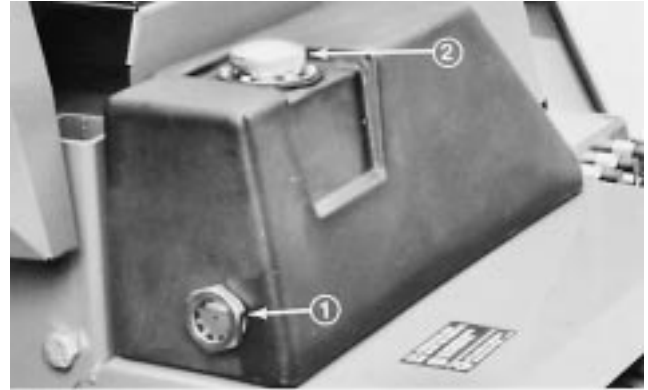

Figure 6
1. Fluid level should be checked daily through sight glass at rear of hydraulic reservoir (Fig. 6). When oil is cold, level will be slightly below center, but should be in the middle of the sight glass when the oil is warm.
2. If oil level is low, add hydraulic oil to the reservoir (Fig. 6); refer to Servicing the Hydraulic System, page 41.